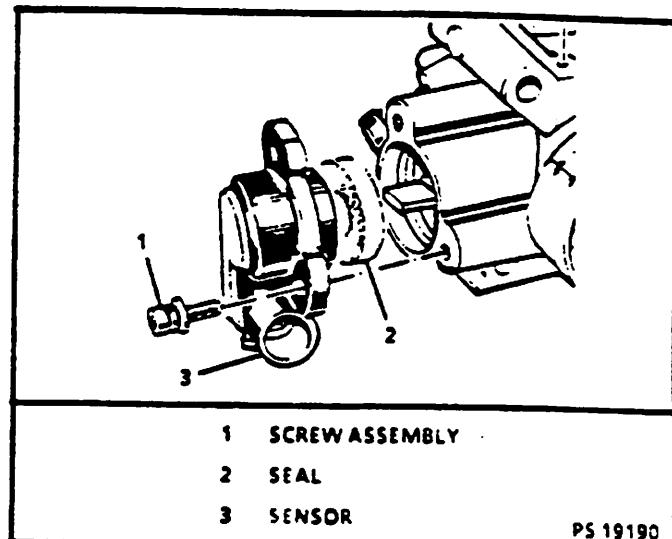

Figure 5 - Throttle Position (TP) Sensor
THROTTLE POSITION (TP) SENSOR Figures 5 and 8
- TP sensor seal over throttle shaft as shown in Figure 5.